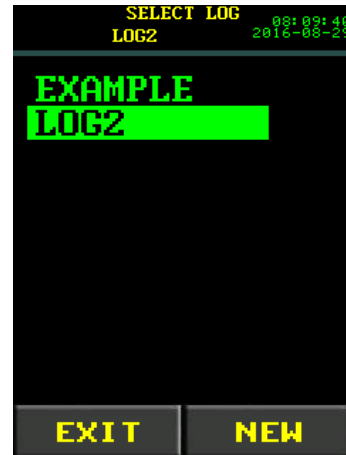

Figure 4.6-4: Select Log Screen
3. Select the log that you want to view (Figure 4.6-4).